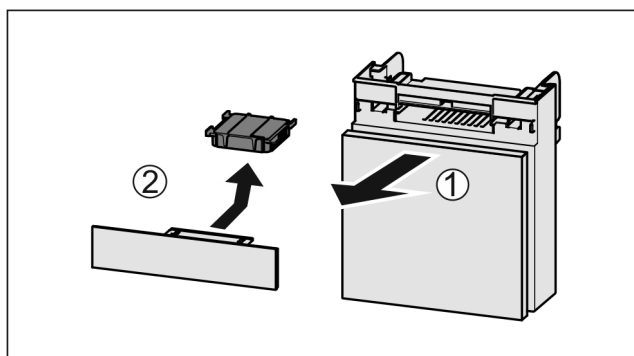

Fig. 121
- Pull out the compartment Fig. 121 (1).
- Remove the carbon filter Fig. 121 (2).